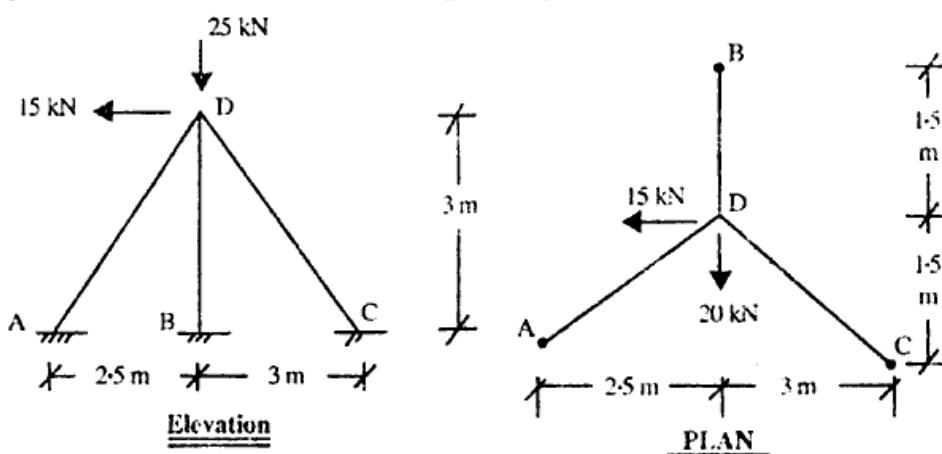

Fig. 7
8. Analyse the frame as shown in Fig. 7, by tension coefficient method.